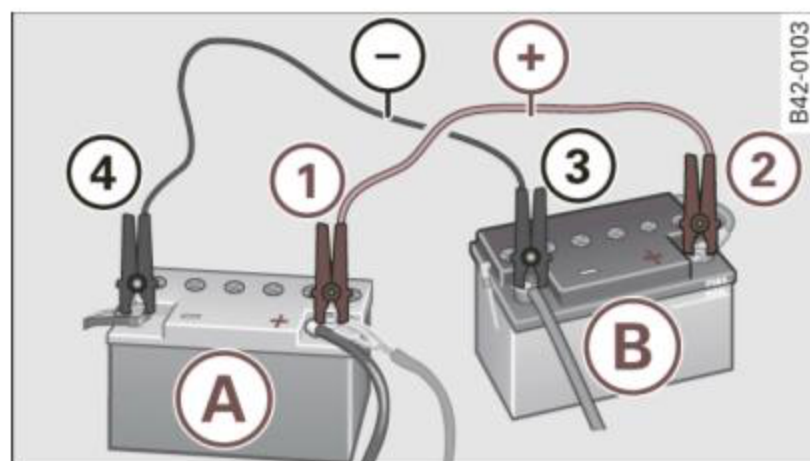

Fig. 135 Jump start using the battery in another vehicle: A - Discharge, B - Female socket
1. Connect one end of the red jumper cable ⇒ fig. 135 ① to the positive terminal of discharged battery ①.
2. Connect the other end of the red jumper cable to the positive terminal ② of the booster battery ②.